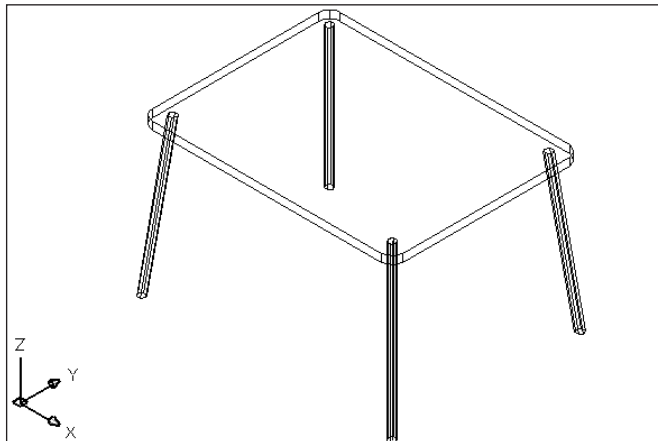

Figure 23-31: The completed table
9. Save your drawing. It should look like Figure 23-31.